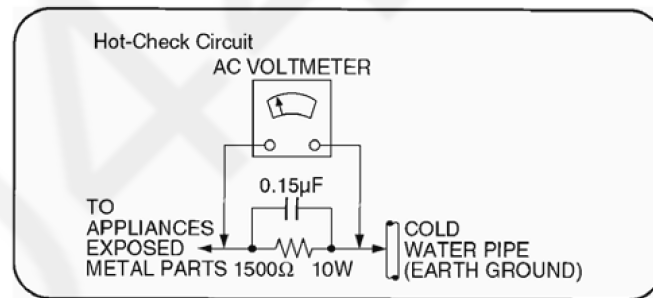

Figure 3.1
3.1.2. Leakage Current Hot Check (See Figure 3.1)
2. Connect a $1.5\text{k}\Omega$, 10 watts resistor, in parallel with a $0.15\mu\text{F}$ capacitor, between each exposed metallic part on the set and a good earth ground such as a water pipe, as shown in Figure 3.1.